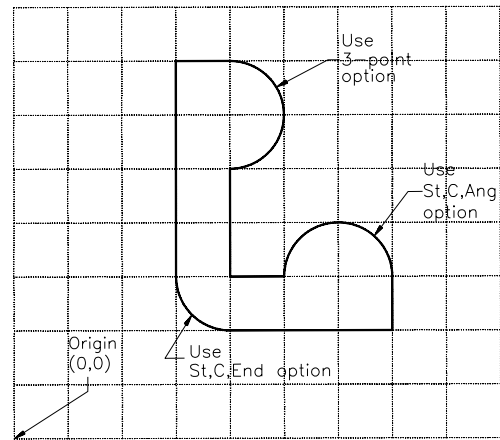

Figure 3-7 Drawing for Exercise 2
- Make the drawing shown in Figure 3-7. The distance between the dotted lines is 1.0 unit. Create the radii by using the arc command options indicated in the drawing.